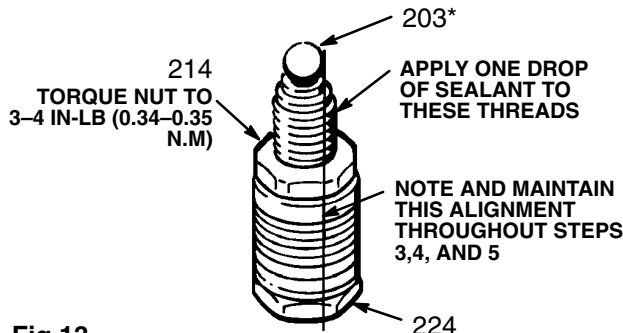

Fig 13
- Tighten the packing retaining nut (214) against the piston valve (224) and torque to 3–4 in-lb (0.34 – 0.35 N.m). See Fig 13.
- Apply 1 drop only of sealant, supplied with the repair kit, to the piston valve threads. Place the small ball (203*) on the valve. See Fig 13. Hand tighten the valve into the rod (223) just until the nut contacts the rod. Place the flats of the displacement rod in a vise.